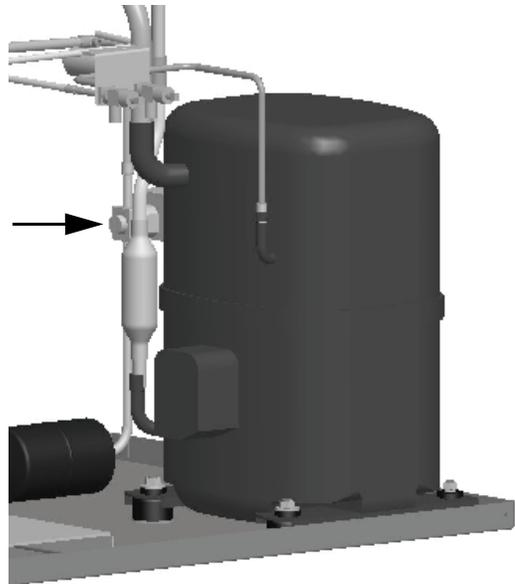

Figure 12.
9. Disconnect the plug from the Hot Gas Solenoid Valve (FIGURE 12).